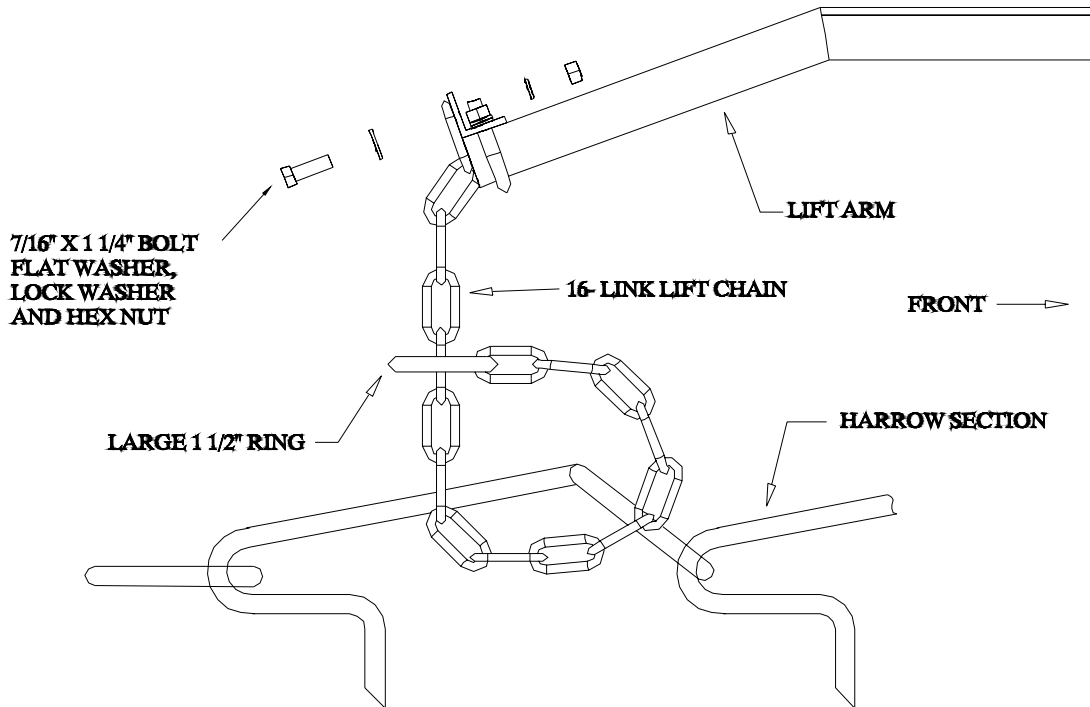

Figure 18
1. Refer to figure 18 below. Wrap the 16-link lift chains around the second to last cross piece below and in front of the end of the lift tube and feed the chain back through the large 1-1/2" ring at the end of the chains.